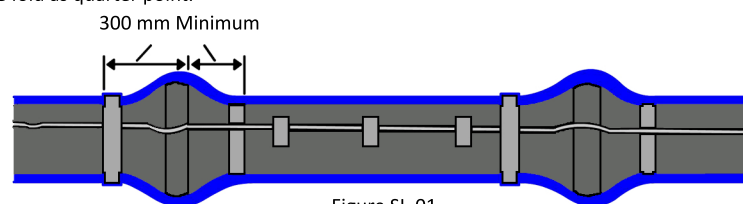
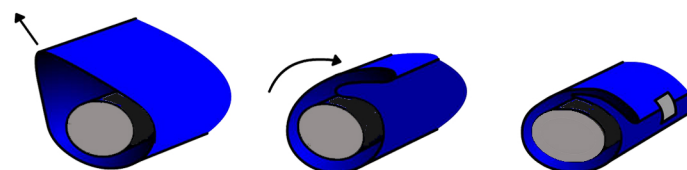

Figure SL-01
Figure SL-02
**Method A:** Cut polyethylene sleeve to a length approximately 600mm longer than the pipe length. Slip the tube around the pipe, move it to provide 300mm overlap on each adjacent pipe section and bunch it lengthwise until it clears the pipe ends. Lower the pipe into the trench and make up the pipe joint with the preceding section of pipe. A shallow bell hole in bedding must be made at the joints to facilitate installation of the polyethylene sleeve. After assembling the pipe joint, make the overlap of the polyethylene sleeve. Pull the bunched polyethylene sleeve from the preceding length of pipe, slip it over the end of the new length of pipe, and secure it in place. Then slip the end of the polyethylene sleeve from the new pipe section over the end of the first wrap until it overlaps the joint at the end of the preceding length of pipe. Secure the overlap in place. Take up the slack width at the top of the pipe as to make a snug but not tight fit along the barrel of the pipe, securing the fold at quarter points by means of adhesive tapes. Refer Figure SL-01 for installation and Figure SL-02 for securing the fold as quarter point.